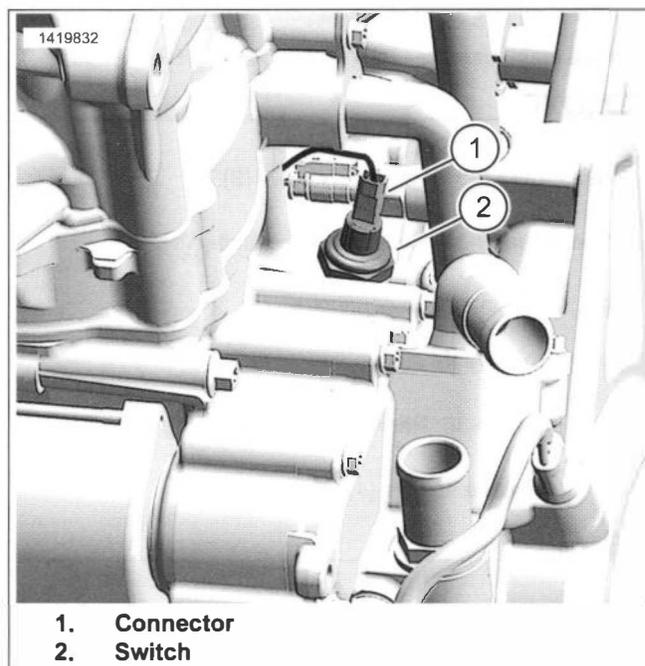

Figure 8-37. Oil Pressure Switch
1. See Figure 8-37. Disconnect oil pressure switch connector (1).
2. Remove switch (2).
1. See Figure 8-37. Install oil pressure switch (2). Tighten.